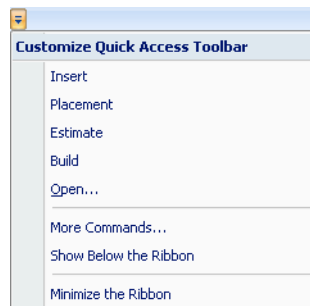

Figure 5-63: *Customize Quick Access Toolbar* menu
- From the *Customize Quick Access Toolbar* menu (see figure 5-63 on page 47), select **More Commands**.